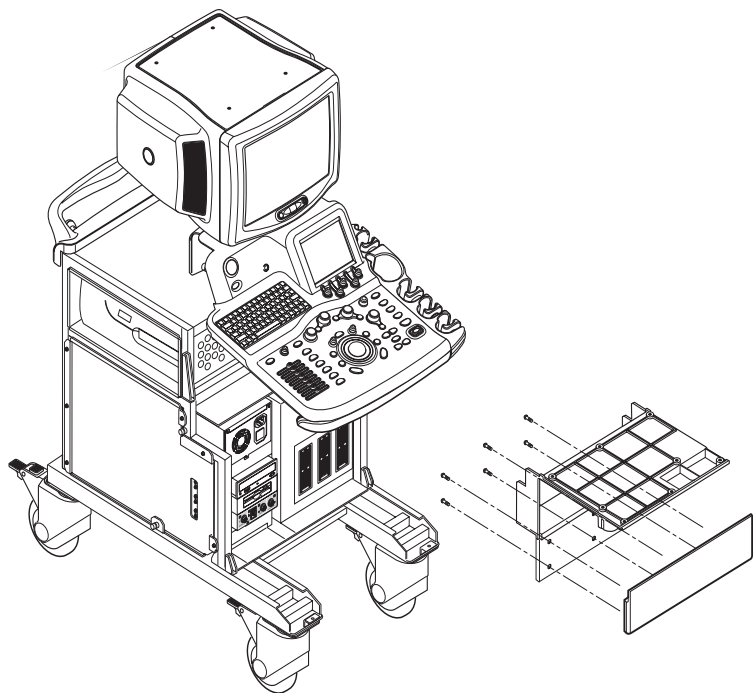

Figure 8-65 Remove the OP Curtain Cover
- 9.) Remove the OP Curtain Cover. Refer to Figure 8-65.